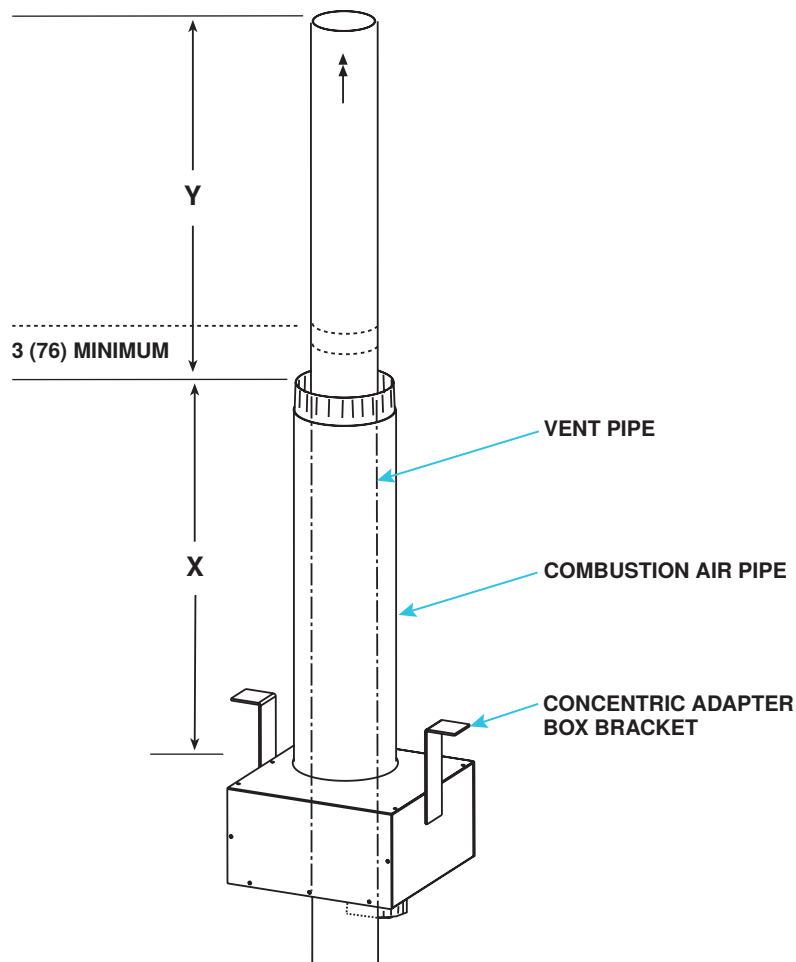

Figure 20. Combustion Air Pipe Installation
5. Connect outside section of combustion air pipe to concentric adapter box (see **Figure 20**):
- a. Refer to **Figure 20** to determine length of dimension X as follows:
- (1) Bracket length
- (2) Plus roof thickness
- (3) Plus anticipated snow depth
- b. Second section of double-wall pipe (see dimension Y in **Figure 20**) may be connected as needed to continuous section of vent pipe. Ensure that connection is minimum of 3 inches (76 mm) above combustion air pipe and that height is 12 inches (305 mm) minimum—34 inches (864 mm) in cold climates where design ambient temperature is -10°F (-23°C) or lower.
6. Secure concentric adapter box to underside of roof (see Figure 20):
- a. Refer to **Figure 20** to determine lengths of each pipe segment and to calculate total length required. Determine length by adding requirements:
- (1) Starting at bottom, vent pipe can extend maximum of 6 inches (152 mm) below box
- (2) Plus 6 inches (152 mm) through box
- (3) Plus length of brackets above box
- (4) Plus width of roof
- (5) Plus height of outside combustion air pipe above roof
- (6) Plus minimum of 3 inches (76 mm) beyond top of inlet air pipe
- (7) Total is minimum length of vent pipe section—if actual piece of vent pipe is longer, extend it farther above combustion air pipe—do not extend it more than 6 inches (152 mm) below box